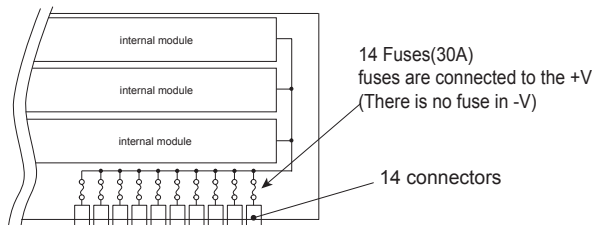

Fig.2.4 Output part block diagram
■Fuses are built-in, and connected to each connectors as shown in Fig.2.4.